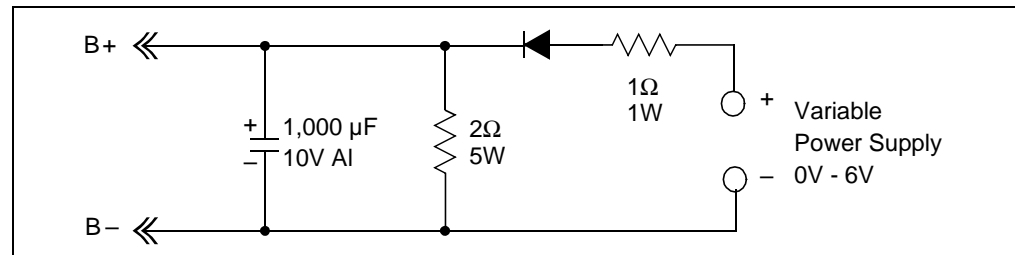

FIGURE 2-2: Simulated Battery Load.
4. The code will prevent the board from entering the 2A Fast Charge mode if the battery terminal voltage is less than 2.8V. During power-up, the board will always trickle charge first, so using a purely resistive load will not work for trickle and fast charge current. The best way to evaluate the charger is to use a single-cell, Li-Ion battery pack or the recommended simulated battery load. Refer to Figure 2-2.